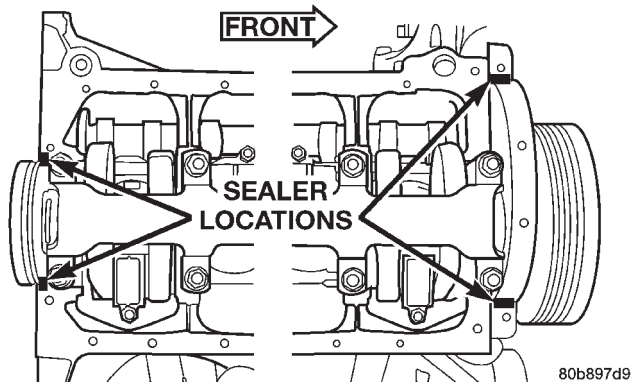
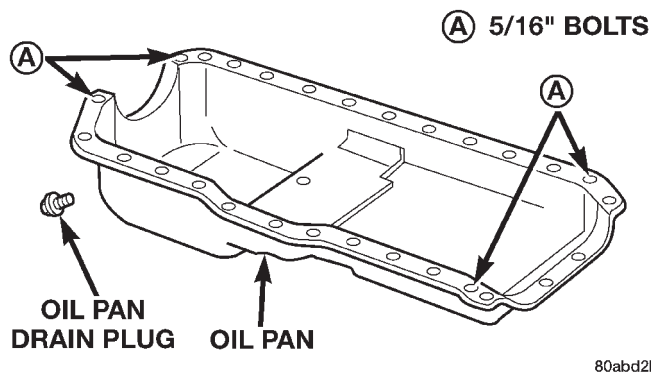

Fig. 50 Oil Pan Sealer Location
Fig. 51 Position of 5/16 inch Oil Pan Bolts
- (4) Apply Mopar® Silicone Rubber Adhesive Sealant on cylinder block to rear main bearing cap corners and cylinder block to front cover joints (four places) (Fig. 50).
- (5) Slide the one-piece gasket over the dowels and onto the block and timing case cover.
- (6) Position the oil pan over the dowels and onto the gasket. If equipped with an oil level sensor, take care not to damage the sensor.
- (7) Install the 1/4 inch oil pan bolts. Tighten these bolts to 9.5 N·m (84 in. lbs.) torque. Install the 5/16 inch oil pan bolts (Fig. 51). Tighten these bolts to 15 N·m (132 in. lbs.) torque.
- (8) Remove the dowels. Install the remaining 1/4 inch oil pan bolts. Tighten these bolts to 9.5 N·m (84 in. lbs.) torque.
- (9) Lower the engine until it is properly located on the engine mounts.
- (10) Install the through bolts and tighten the nuts.
- (11) Lower the jack stand and remove the piece of wood.
- (12) Install the engine flywheel and transmission torque converter housing access cover.
- (13) Install the engine starter motor.
(14) Connect the exhaust pipe to the hanger and to the engine exhaust manifold.
(15) Install transmission oil cooling lines (if equipped) and oxygen sensor wiring supports that attach to the oil pan studs.
(16) Install the oil pan drain plug (Fig. 51). Tighten the plug to 34 N·m (25 ft. lbs.) torque.
(17) Lower the vehicle.
(18) Connect negative cable to battery.
(19) Fill the oil pan with engine oil to the specified level.